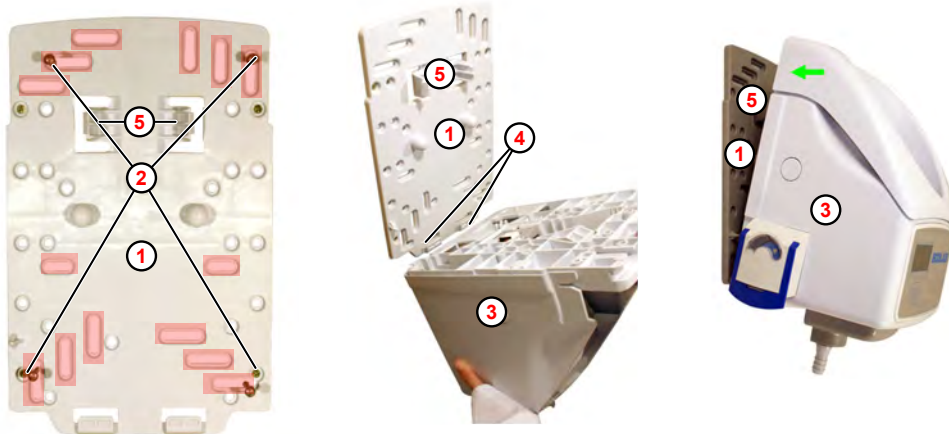

Fig. 3: Wall mounting (example with EcoPlus S)
1. ➤ Mark the desired drill holes ② at the mounting position using the wall bracket (Fig. 3 , ①).
3. ➤ Fix the wall bracket ① to the wall using suitable attachment parts.
4. ➤ Place the EcoPlus PDRX ③ in the hooks ④ of the wall bracket ① from above.
5. ➤ Swivel the EcoPlus PDRX ③ onto the wall bracket ① and press it backwards until it audibly engages.